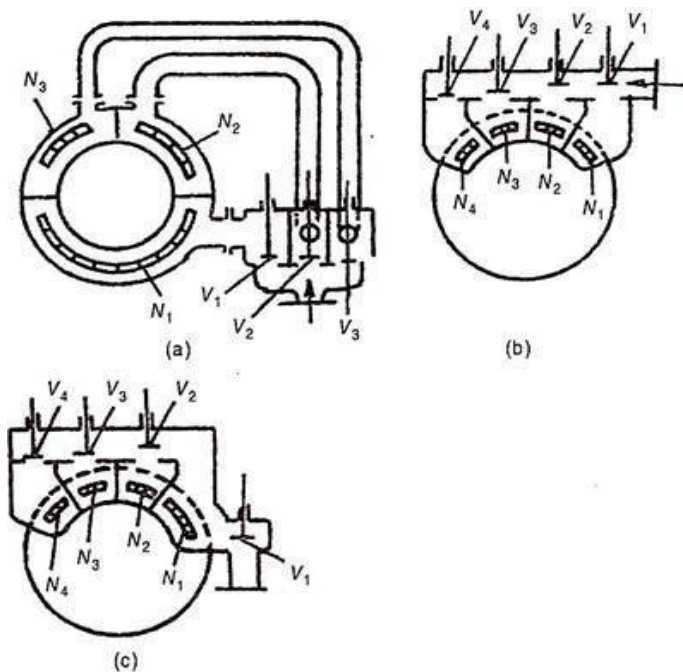

Fig. 20.8. *Diagrammatic arrangements of nozzle control governing*
20.8. An arrangement often adopted with large steam turbines using high-pressure steam is shown in Fig. 20.8(a). The number of nozzle groups may vary from three to five or more.
Figure 20.8(b) shown an arrangement where the nozzle control valves are arranged in a casting forming part of the cylinder of bolted thereto, and containing passes leading to individual nozzle groups. The nozzles are confined to upper half of the cylinder and are of admission is limited to 180° or less. The number of nozzle groups may vary from four to twelve.